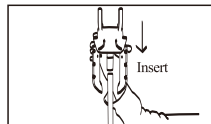

Figure 3
2. Put the clothes hanger hook onto the top telescope pole along the alignment as shown in Figure 3.